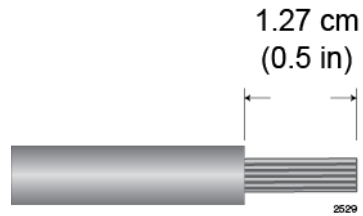

Figure 109. Stripping the Power Wires
1. Prepare adequate lengths of two stranded 8 AWG power wires by stripping them as shown in Figure 109 on page 157.